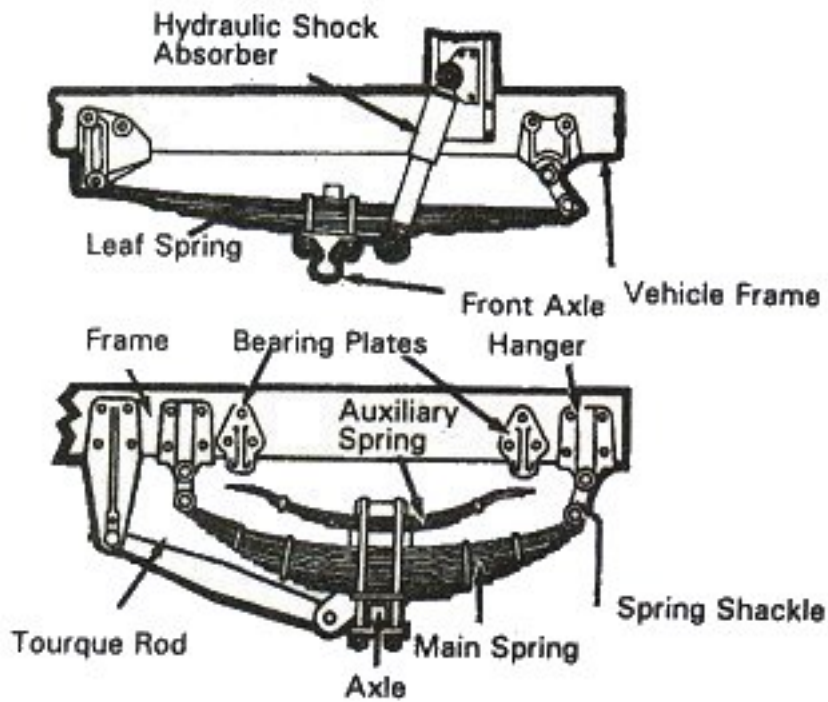

Figure 2-2 Key Suspension Parts
- Spring hangers (Figure 2-2) that allow movement of axle from proper position.
- Torque rod or arm, U-bolts, spring hangers, or other axle positioning parts that are cracked, damaged, or missing (Figure 2-2).